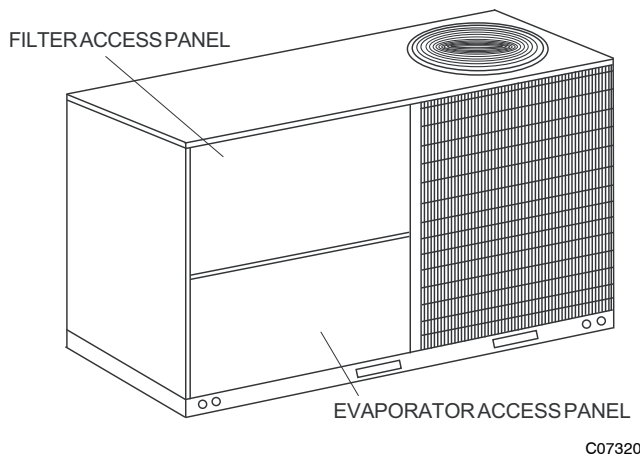

Fig. 1 - Typical Access Panel Locations
2. Remove filter access panel by raising panel and swinging panel outward. Panel is now disengaged from track and can be removed. No tools are required to remove filter access panel. Remove evaporator access panel. Save screws and discard panel. (See Fig.1.)